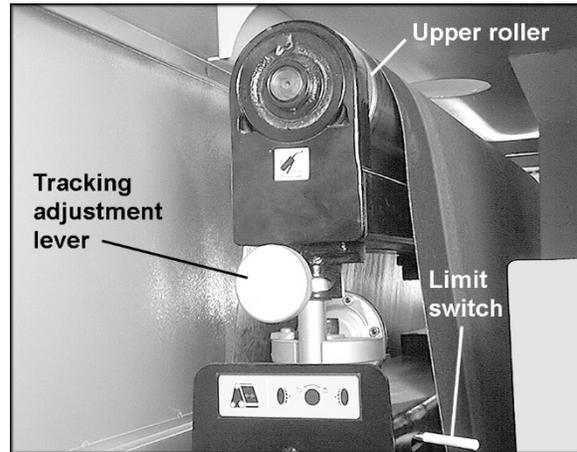

Figure 7
3. If the oscillation time to the right side is one second, but the oscillation time to the left side is longer, then loosen the tracking adjustment lever (rotate it counterclockwise) and move it to the left until proper timing is achieved. See Figure 7.